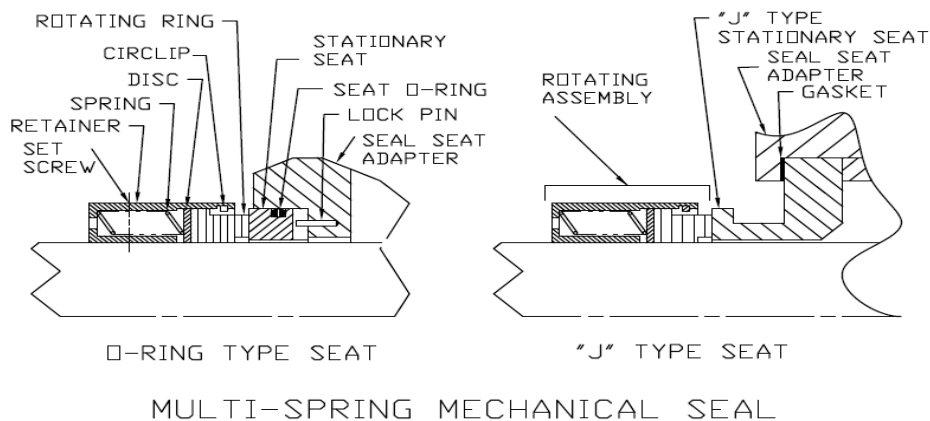

Figure 3 – Multi-Spring Mechanical Seal
- (2) **Multi-Spring (Figure 3)**. Loosen setscrews and slide rotating assembly from power rotor (7).
- (2) **Multi- Spring (Figure 3)**. Slide rotating assembly (on power rotor 7) until rotating assembly is positioned next to idler stop on power rotor 7. Tighten set screws.